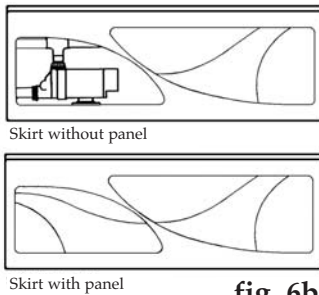

fig. 6b
***An Optional Removable Panel on IFS Tub Only Models (Fig. 6b).